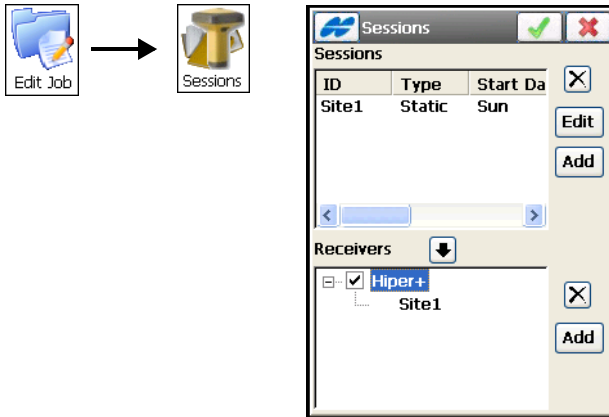

Figure 6-33. Session Edit
1. To create a new session, tap the **Add** button on the *Sessions* panel (Figure 6-33). The *Session Setup* screen displays.
Enter the site name, the type of the survey, the time (in local time) and date of the start and end of session, the interval between measurements, minimum number of satellites needed for the survey and the value and type of the antenna height. Then tap the ok  button to return to the *Sessions* screen (Figure 6-33 on page 6-25).
5. To hide/display the session plans of the receiver, tap on the “-/+” sign located near the receiver name to collapse/expand the tree node (Figure 6-33 on page 6-25).
6. To put a session to the session plan of the receiver, highlight the desired session in the left panel and check the necessary receiver on the right and tap the  button (Figure 6-33 on page 6-25).
7. To edit the session, select it in the left panel and tap the **Edit** button (Figure 6-33 on page 6-25).
8. To delete the session from the sessions list or the receiver, use the  button (Figure 6-33 on page 6-25).